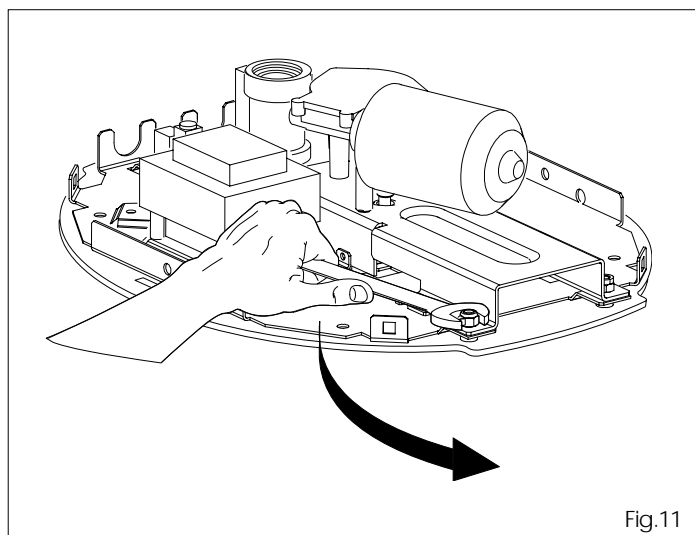

Fig.11
5.5 Remove the housing, unscrew the lamp and, using a suitable wrench, remove the nuts securing the motor unit to the operator (fig.11).